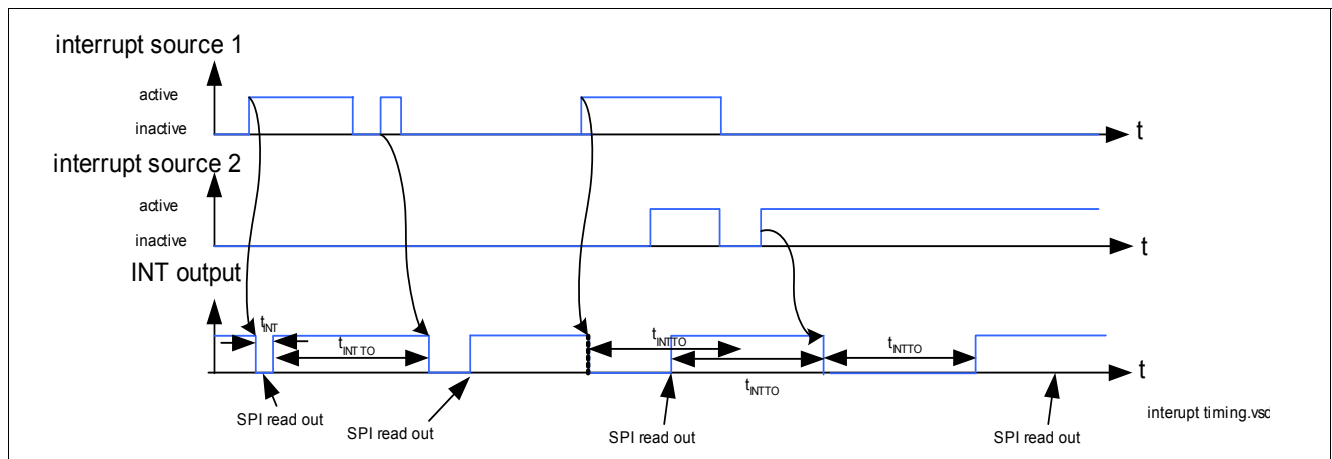

Figure 26 Interrupt Timing
Figure 26 illustrates the interrupt timing. The INT output is set LOW as soon as an interrupt condition occurs. The INT pin is released after a SPI interrupt buffer read out command, that is performed with a Read Only command (111) to register (000). In case consecutive interrupt sources are indicated before the SPI read out, only one INT LOW will be raised but the SPI read out will indicate the interrupt sources. A time-out feature is implemented. The INT pin can be active LOW only for the time t_{INTTO} . Afterwards, the INT pin is released but the INT source is still valid or present in the SPI register. Between two activations of the INT, there is at least a delay of t_{INTTO} . If an interrupt occurs in the meantime, the information is stored and the INT will go LOW after t_{INTO} . The INT pulse width is at minimum t_{INT} .